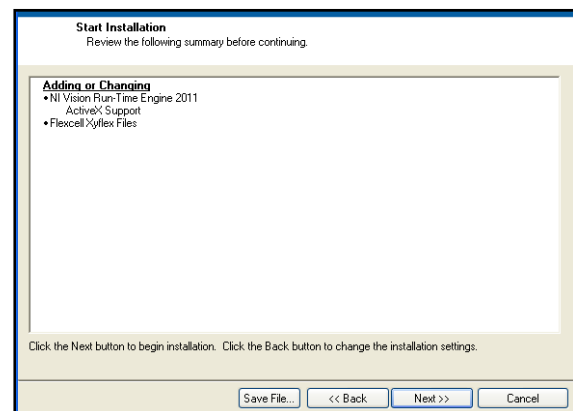

Figure 4. Starting XyFlex™ installation.
6. Click *NEXT* to begin the installation (Fig. 4).